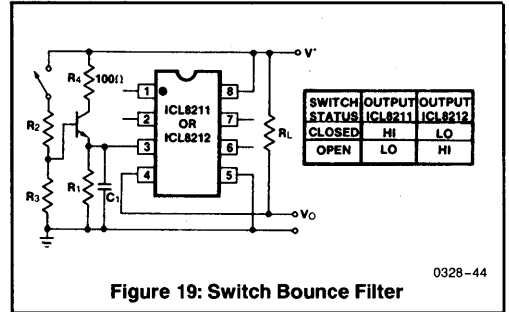

Figure 19: Switch Bounce Filter
i) Switch Bounce Filter (Figure 19)
Single pole single throw (SPST) switches are less costly and more available than single pole double throw (SPDT) switches. SPST switches range from push button and slide types to calculator keyboards. A major problem with the use of switches is the mechanical bounce of the electrical contacts on closure. Contact bounce times can range from a fraction of a millisecond to several tens of milliseconds depending upon the switch type. During this contact bounce time the switch may make and break contact several times. The circuit shown in Figure 19 provides a rapid charge up of C_1 to close to the positive supply voltage (V^+) on a switch closure and a corresponding slow discharge of C_1 on a switch break. By proportioning the time constant of $R_1 C_1$ to approximately the manufacturer's bounce time the output as terminal #4 of the ICL8211/8212 will be a single transition of state per desired switch closure.